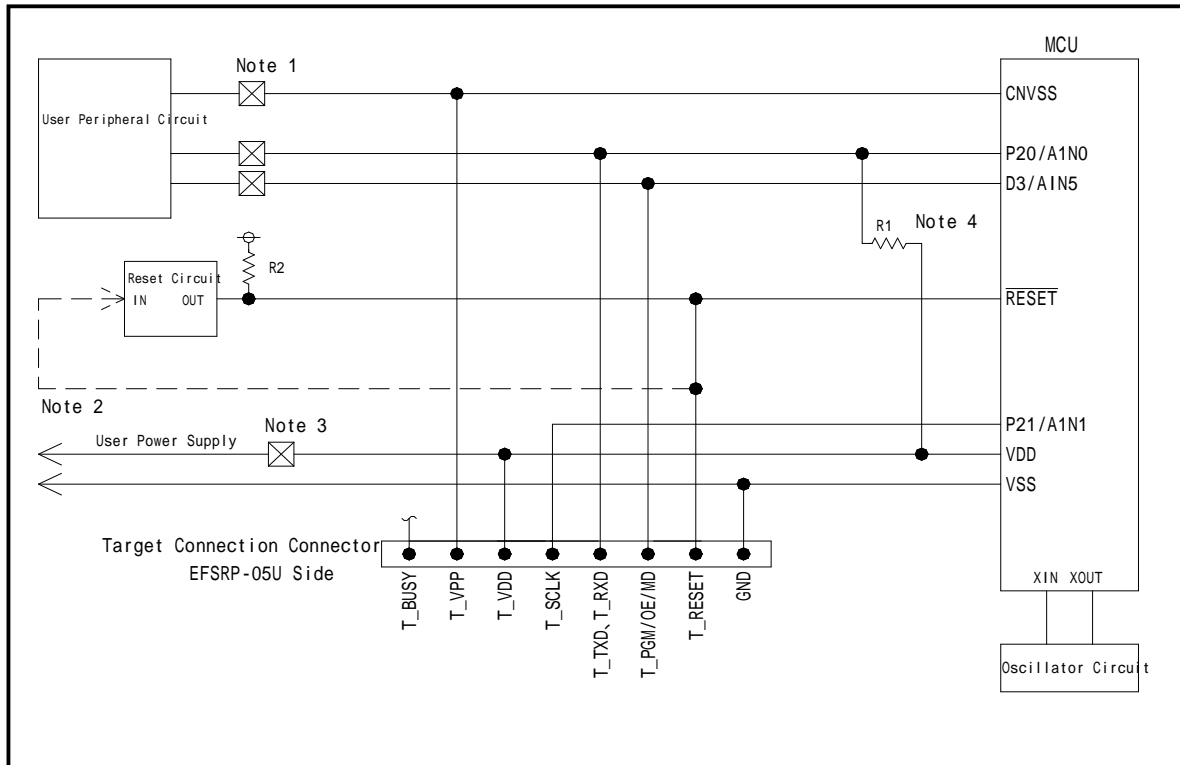

Fig 3.1: Target MCU Peripheral Circuit Example
(1) Fig3.1. shows an example of target MCU peripheral circuit when using 4508/4509 group.